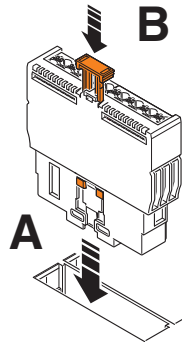

Figure 6-2 Inserting and latching the Smart Element in its slot
- Insert the Smart Element vertically into its slot (Figure 6-2, A).
- Push the release mechanism into the guide as far as it will go (Figure 6-2, B). This latches the Smart Element.